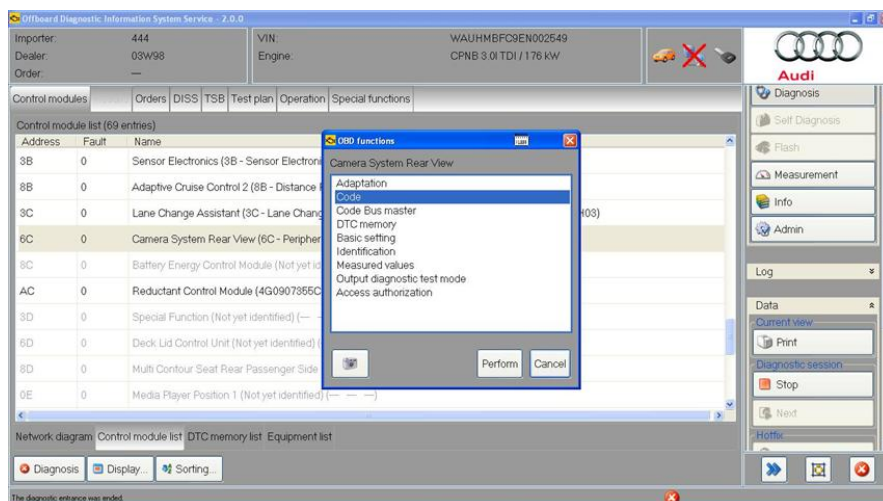

Figure 3. Selecting Code.
- Choose *Code* from the menu (Figure 3). The tester will state that the operation failed. Click past this warning message and proceed.